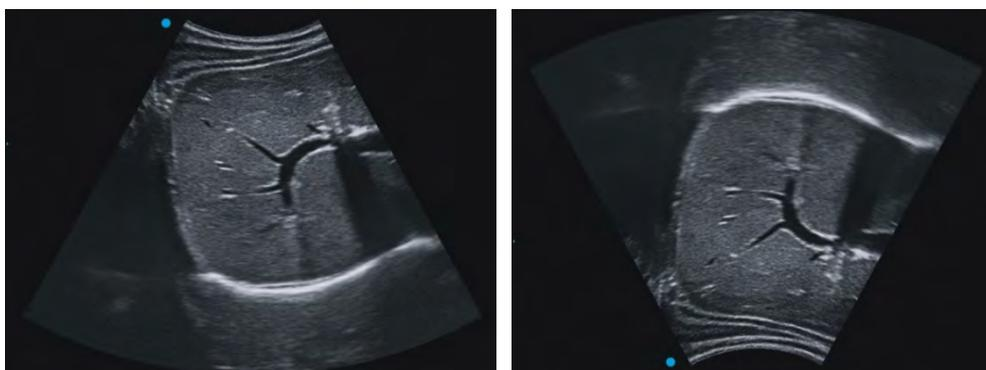

Fig.6-7 Up/Down Inversion
**Touchscreen:** If you tap on **B\_UD** in Live state, you can invert the B-mode image up/down. The mark ● represents the orientation for the start of the probe scan, and it can be moved from the upper left to the upper right. See Fig.6-7.